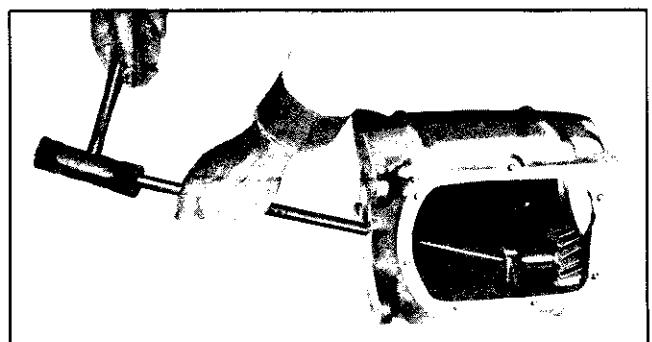

Fig. 7C-9 Removing Reverse Idler Gear Shaft
13. Support third speed gear with press plates and press on front of mainshaft to remove synchronizer assembly, third gear blocker ring and third speed gear from mainshaft (Fig. 7C-10).
14. Remove rear bearing snap ring from mainshaft (Fig. 7C-4).